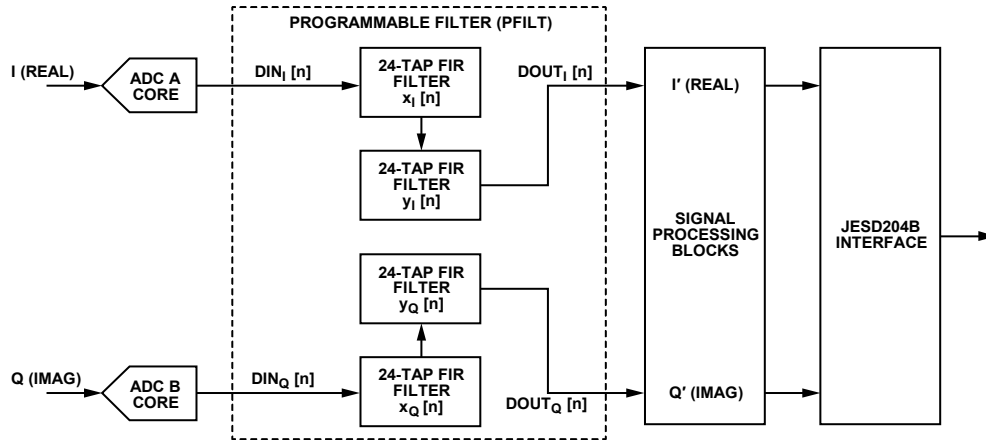

Figure 106. Real, Two Cascaded, 24-Tap Filter Configuration
- Real set of two cascaded 24-tap filters for each I/Q channel (see Figure 106)